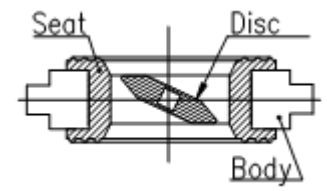

Fig. 4
- 1) Install the valve between flanges with valve slightly open. Fig. 4